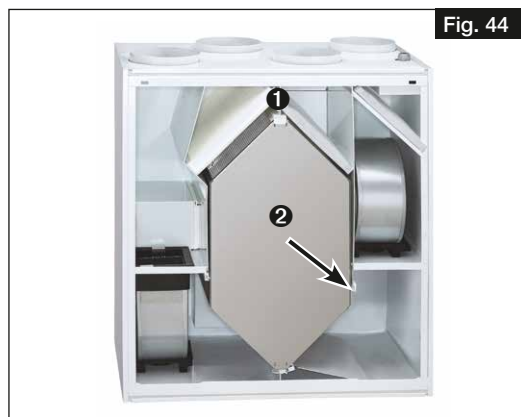

Fig. 44
3. Remove terminal strip **1** at top of heat exchanger (see Fig. 44).
4. Carefully remove the heat exchanger **2** from the unit (see Fig. 44).